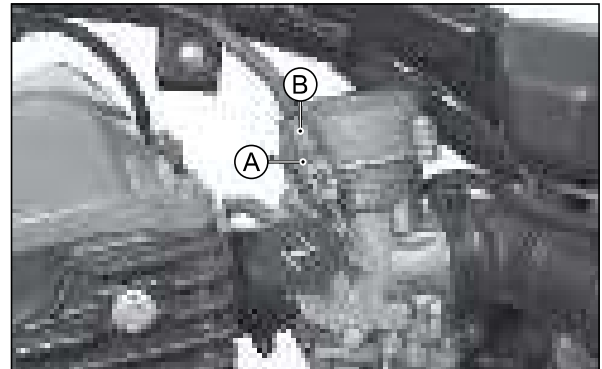

Fig. 4.14
- Fully loosen the throttle cable lock nut (A) while holding the adjuster (B). (Fig. 4.14)